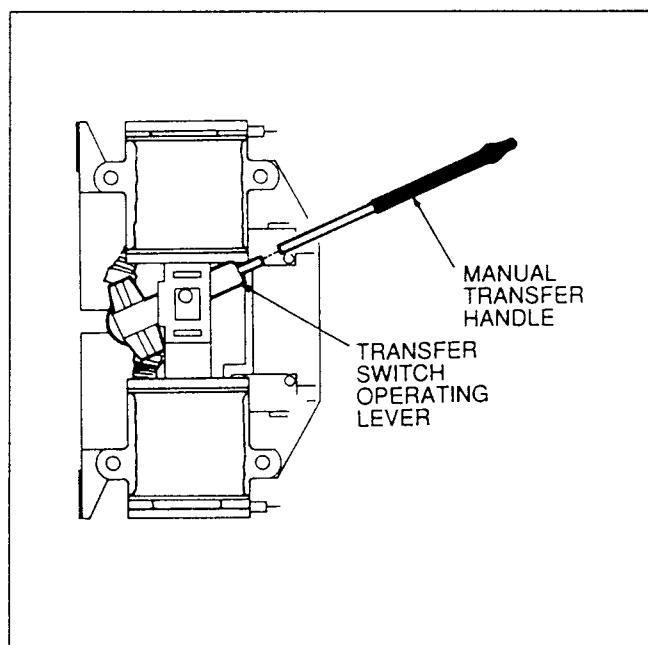

Figure 31. Transfer Switch Manual Operation
- Attach the manual transfer switch handle to the transfer switch operating lever (Figure 31). Move the handle downward and then back to its original position. If the handle is DOWN, load is connected to the utility power supply. If handle is UP, load is connected to generator output.